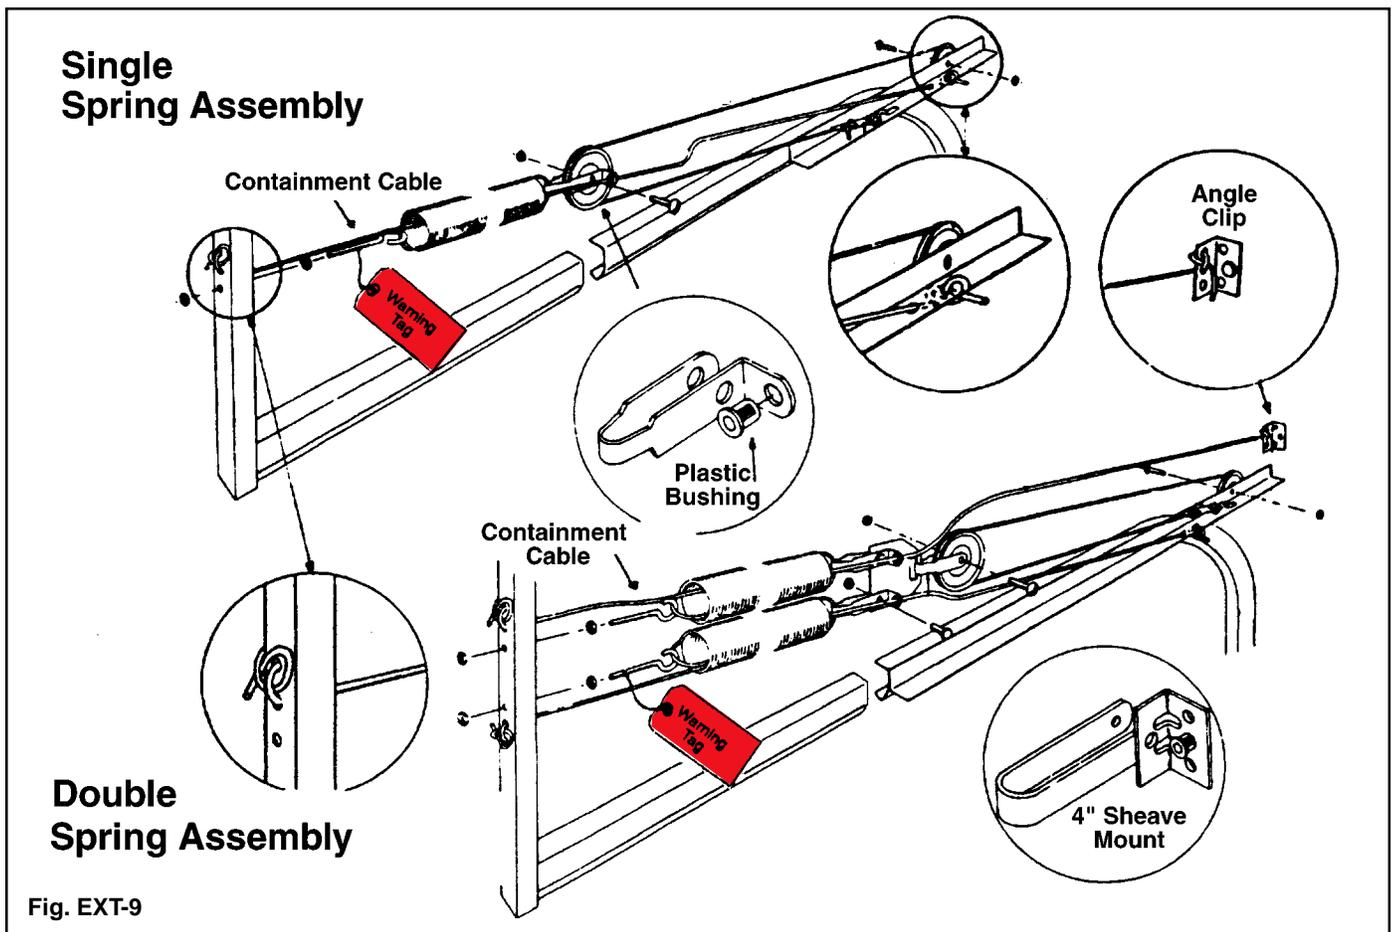

Fig. EXT-9
**Important:** Attach the warning tag found in the white envelope with orange print to the spring assembly (This tag may already be attached). (FIG. EXT-9)
**Step 8:** Tie one end of the 1/8" containment cable to the rear track hangers. Tie the cable as shown in the illustration (FIG. EXT-9). Thread the cable through the center of the extension spring and through the bushing in the sheave fork. Tie the remaining end to the horizontal angle as shown. This must be done for each of the springs.
**NOTE:** If your door has four extension springs, tie the upper containment cable to an angle clip mounted to the jamb. (FIG. EXT-9)